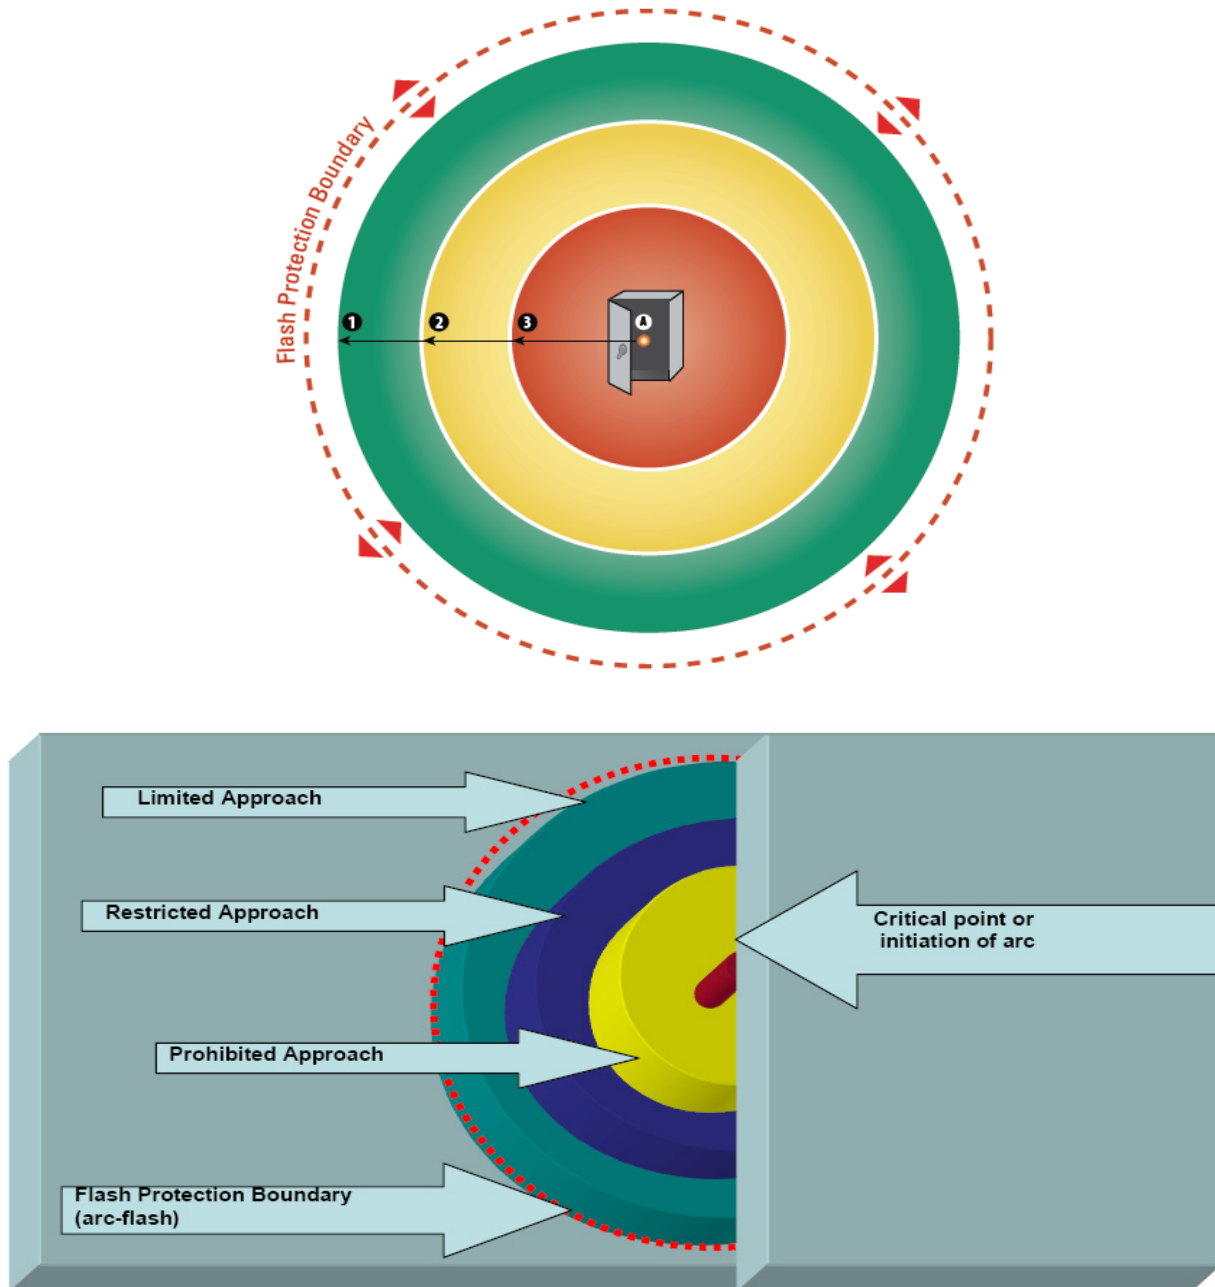

Figure 1.6
NFPA 70E has established three shock protection boundaries (please refer to Figure 1.6):
The incident energy level which does not cause flame resistant (FR) fabric breakopen and does not exceed second-degree burn criteria, as defined in ASTM F 1959. Standards such as OSHA also specify that protective gear must be maintained and periodically inspected to ensure that it remains in a safe and reliable condition. It is also extremely important to avoid contamination of PPE material. Contact with grease, solvents, and flammable liquids may destroy the protection. Typical protective clothing systems for various hazard risk categories are shown in Figure 1.6 .